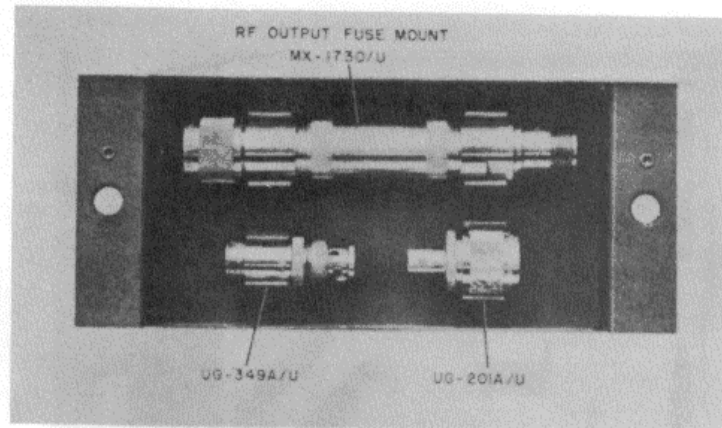

Figure 1-8. Accessory Cover
c. Connector Adapter UG-201A/U is a BNC male to Type N female adapter; it is included as an accessory for convenience in making cable connections to the signal generator. (See figure 1-8.)
d. Connector Adapter UG-349A/U, included for the same purpose, is a BNC female to Type N male adapter. (See figure 1-8.)
e. R-f Output Fuse Mount MX-1730/U. a special coaxial fuseholder for protection of the output attenuator, is included as an accessory for the TS-510/U and the TS-510A/U(**) Signal Generators. This fuse protects the output attenuator from damage in the event that an external voltage is accidentally applied at the RF OUTPUT. The fuseholder connects to the output cable and is provided with 2 standard female Type N output connectors. A Type 8AG, 1/16-amp fuse is utilized. The fuseholder has an insertion loss of 0.05 db at 200 mc, 0.56 db at 300 mc, and 0.65 db at 400 mc; its VSWR is not greater than 1.35 when connected to a 50-ohm resistive load. (See figure 1-8.) A similar fuseholder, 2152, is included as an accessory for the TS-510A/U(*) Signal Generator.